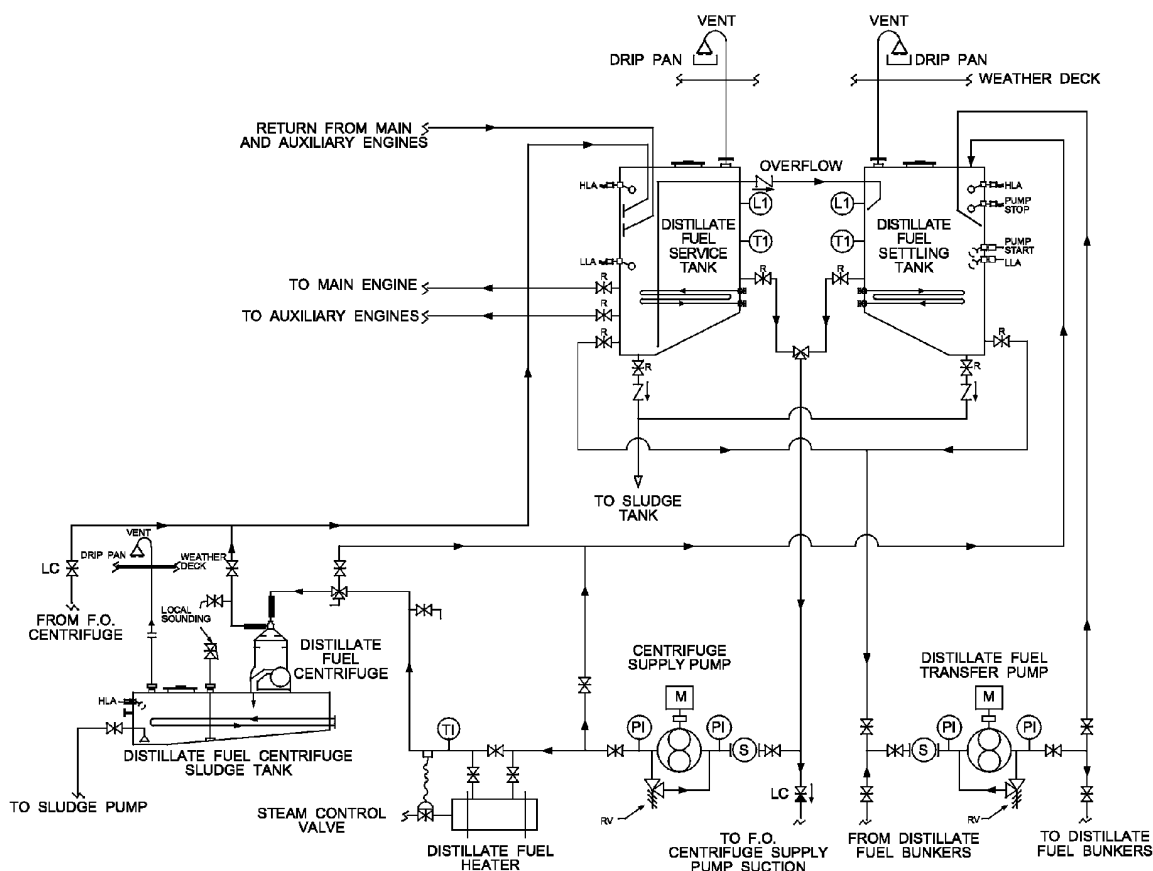

Figure 9
effective. It is used extensively in marine, offshore and power generation applications where a continuous power supply is essential, and the continuous supply of clean fuel cannot be left to chance. A typical distillate fuel centrifuge schematic is shown in **Figure 9**.
While **Figure 9** shows a single centrifuge schematic, many applications will require the use of two (2) centrifuges, with one of the centrifuges acting as a standby.
If the installation warrants, used lubricating oil can be blended and used in the engine in a continuous manner. The normal method uses a centrifuge module similar to **Figure 9**. The following information describes this system.